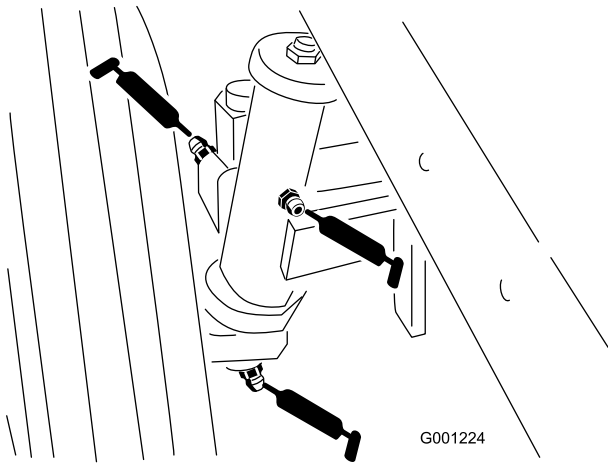

Figure 38
- Rear wheel spindle bushings (Figure 38)